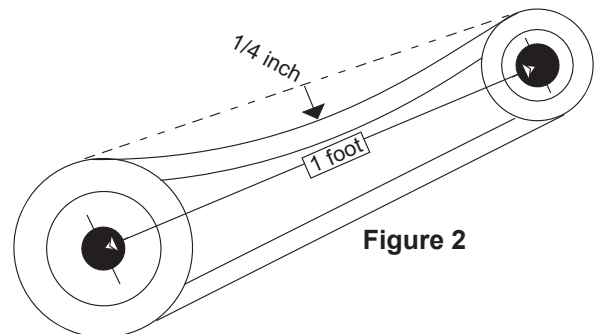

Figure 2
2. Slide the motor plate back until proper tension is reached. For proper tension, a deflection of approximately 1/4" per foot of center distance should be obtained by firmly pressing the belt. Refer to *Figure 2*.